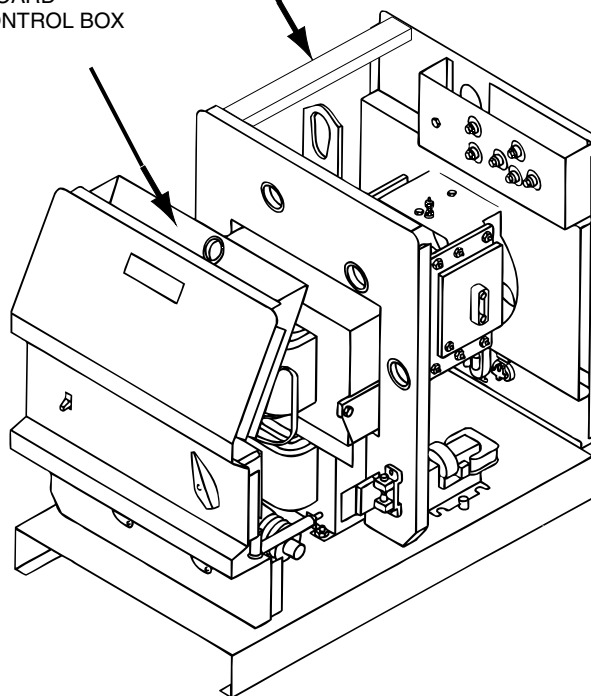

FIGURE F.5 - PROTECTION/SNUBBER BOARD LOCATION
2. Locate and remove all harness plugs from the protection/snubber board located on the back of the control box. Refer to Figure F.5.